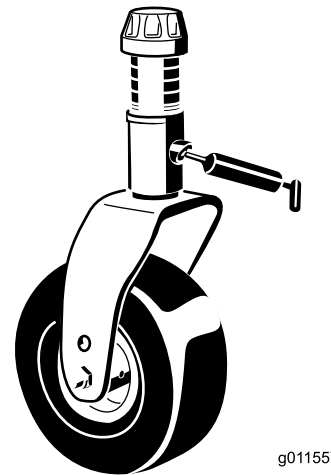

Figure 62
- Castor fork shaft bushings (2) (Figure 62)